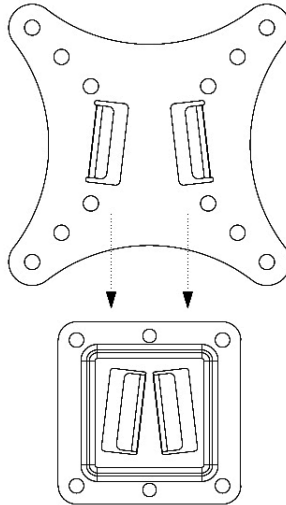

Figure 6
1. Hang the display plate onto the top of the wall plate and slip it into the wall plate as shown (Figure 6).